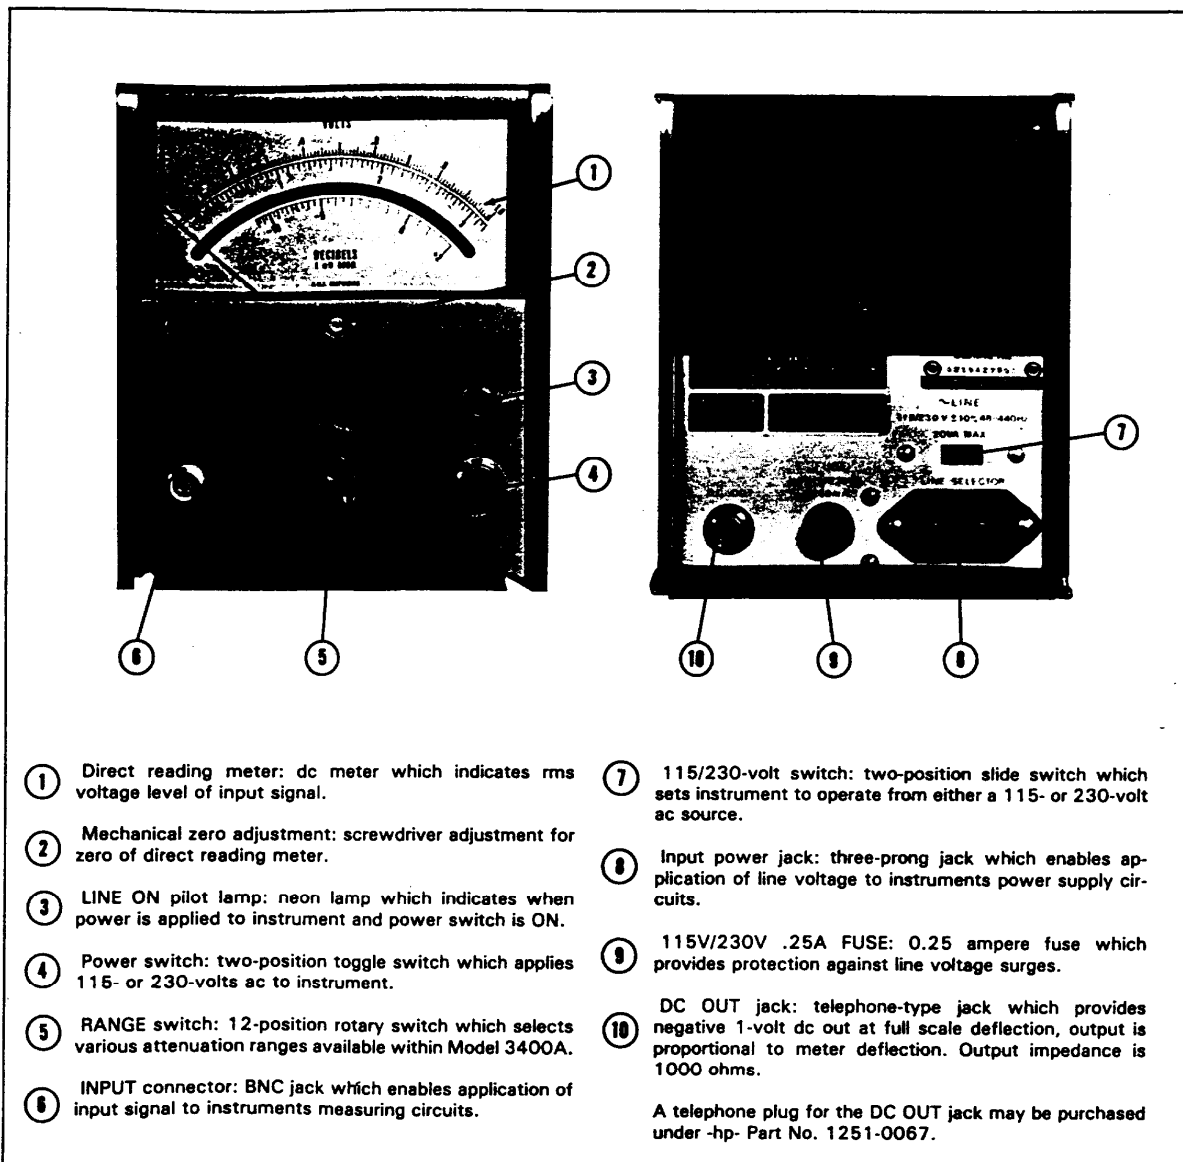

Figure 3-1. Model 3400A Controls and Indicators
3-4. Each operating control, connector, and indicator located on the Model 3400A is identified and described in Figure 3-1. The description of each component is keyed to an illustration of that component which is included within the figure.
- a. Set 115/230 switch (7, Figure 3-1) to correct position for input line voltage.
- b. Apply ac voltage to Model 3400A by plugging power cord into input power jack (8) ac receptacle.
- c. Operate power switch (4) to ON; ensure that LINE indicator (3) lights.
- a. Attach test lead to INPUT connector (6, Figure 3-1). (See Table 1-3 for a list of test leads available.)
- b. Set RANGE switch (5) to 300 VOLTS position.
3-16. Since the Model 3400A is provided with a dc output (10, Figure 3-1) which is proportional to the meter deflection, it can be used as a linear rms ac to dc converter. The dc output can be used to drive an -hp- Model 3468A Digital Multimeter for high resolution measurements and/or an -hp- Model 680 Strip Chart Recorder. External loading does not affect the meter accuracy so that both the meter and dc output can be used simultaneously. A plug for DC OUT jack may be purchased under -hp- Part No. 1251-0067.